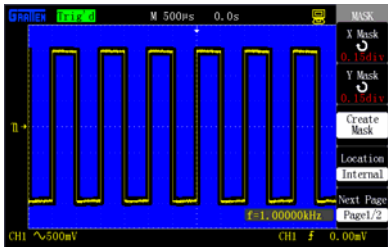

Figure 2-75 Page 1 of rule setup menu
- 7) Press **"Rule setup"** to skip to page 2 of the rule setup menu, as shown in figure 2-75.